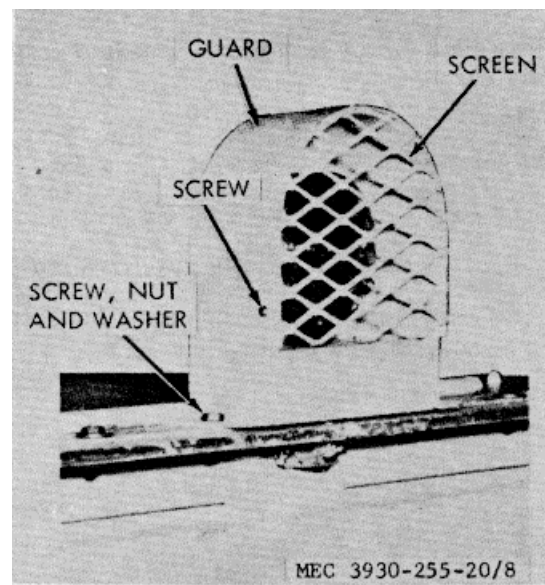

Figure 8. Stop and taillight, installed.
- (1) Remove two screws, nuts, and washers (fig. 8) attaching guard to truck. Lift guard and disconnect light wires from terminal board under guard.
- (2) Remove screws holding screen to guard and remove screen.
- (3) Remove nut and washer holding light assembly to guard, and remove guard.